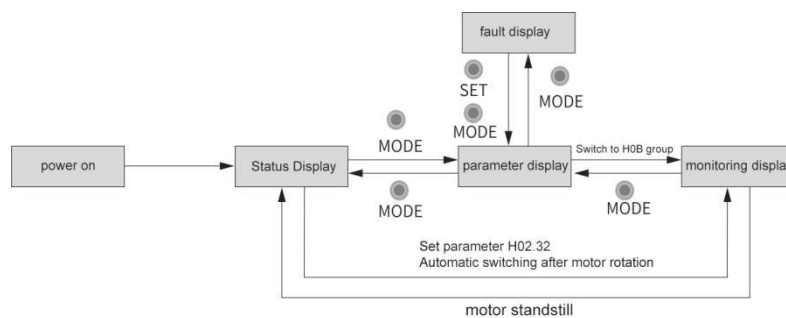

Figure 5-2 Schematic diagram of display switching methods for various types of panels
- Press the "MODE " key to switch between different display modes, and the switching conditions are shown in "Figure 5-2 ".